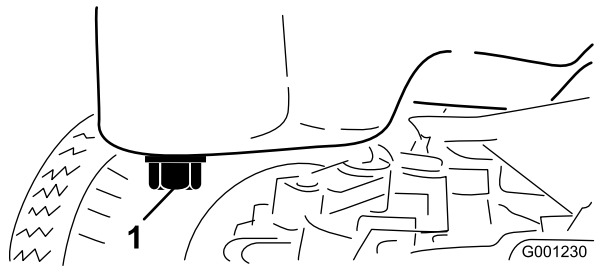

Figure 52
3. Set a drain pan under the oil pan and in line with the drain plug (Figure 52).